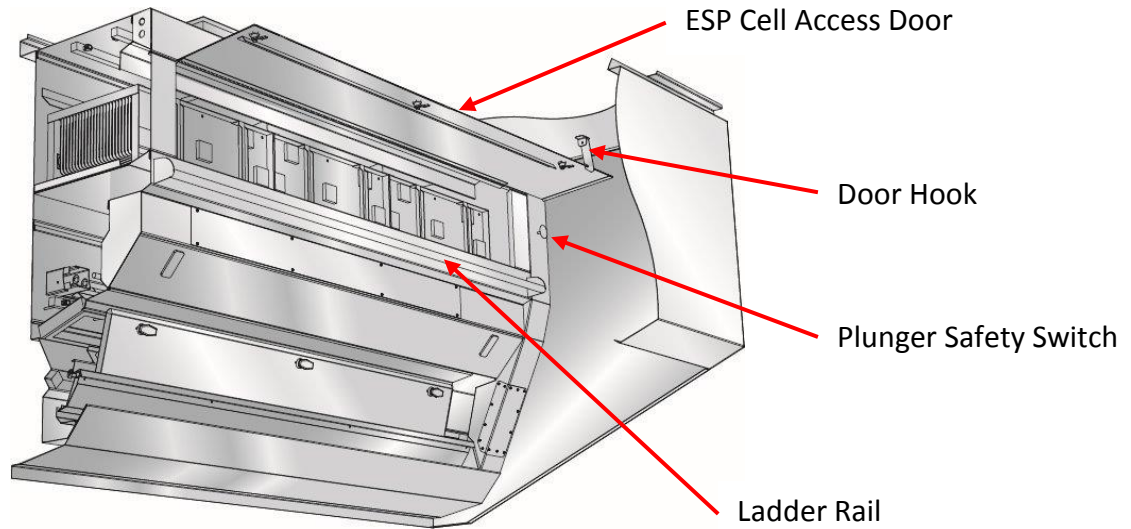
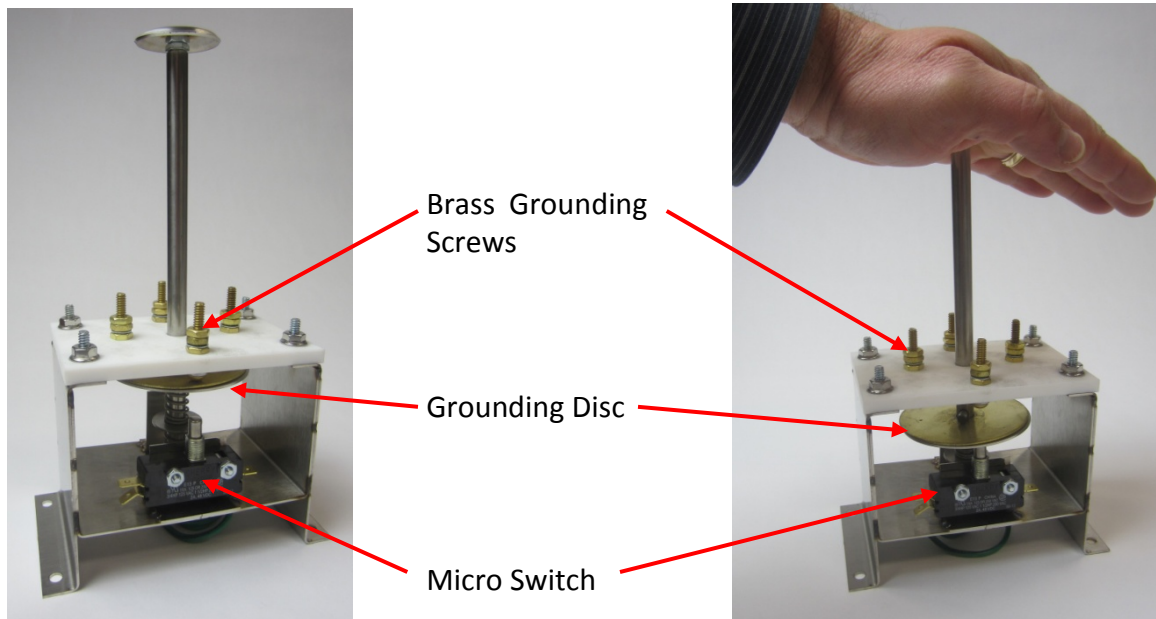

Figure 6-48-1
Figure 6-53-1
Proper voltage through the ESP Cells is essential for maximum smoke removal. There is one or more power supply Transformers located in the electrical compartment at one end of the Ventilator. (Refer to Figure 6-48-1, 6-54-1 and 6-55-1). One Transformer can provide power for a maximum of 4 Cells. The Transformer(s) outputs 5,000 volts DC to the repelling plates of the Cell and 10,000 volts DC to the ionizing wires. The voltage of each Transformer is monitored by a green status light located on the Wash Control Cabinet (Refer to Figure 3-4-4). A solid green light indicates that the ESP Cells are operating properly. Typically a green light off condition indicates a problem with a Cell, a Transformer or the Plunger Safety Switch.
The Plunger Safety Switch and Transformer(s) are located in the Electrical Compartment located at one end of the Ventilator (Refer to Figure 6-48-1 and 6-52-1). The Plunger Safety Switch, when released by opening the ESP Cell Access Door, shuts off the power to the power supply transformer and bleeds power from the transformer, by the Grounding Disc making contact with the brass grounding screws (Refer to Figure 6-53-1 and 6-54-1). There are two potential areas that can cause failure of the Plunger Safety Switch. The first is a mechanical failure and the second is a failure of the micro switch (Refer to Figure 6-53-1). To test for these two situations proceed as follows:
1. Screw the Plunger Disc back onto the Plunger Rod and push in the Plunger Safety Switch and verify that the Grounding Disc is pushing the micro switch down until you can hear the click of the switch engaging (Refer to Figure 6-53-1). If it is not repair as necessary. The electrical chassis must be removed to repair or replace the Plunger Safety Switch. Refer to Page 6-54 for instructions.